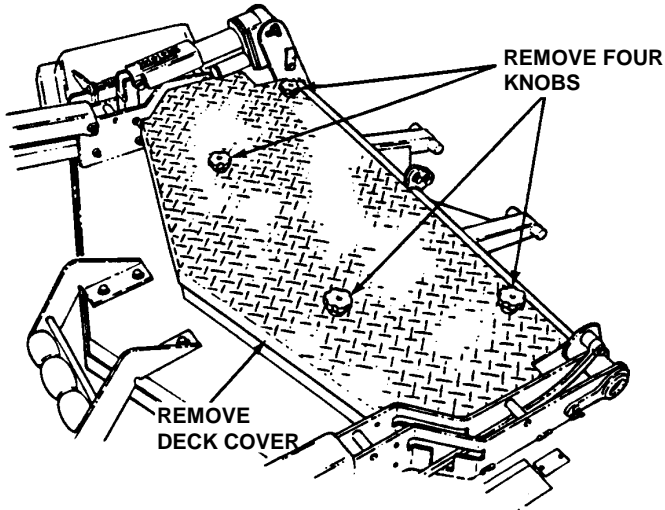

FIGURE 4.3
- Remove four knobs that secure the deck cover. See Figure 4.3.